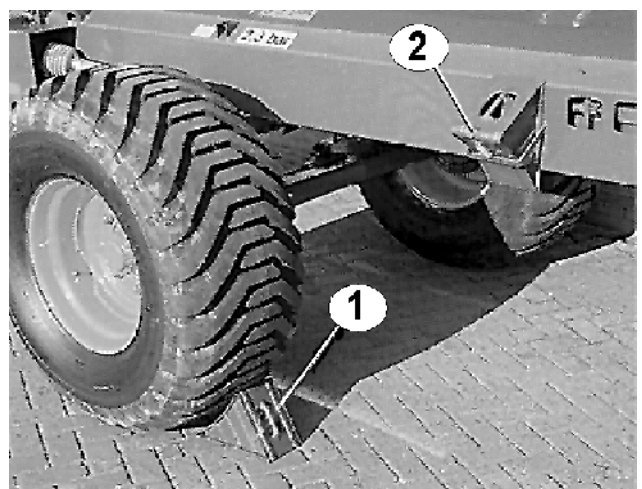

Fig. 17
- Remove chocks and secure in the pockets (Fig. 17/2) on the frame side.